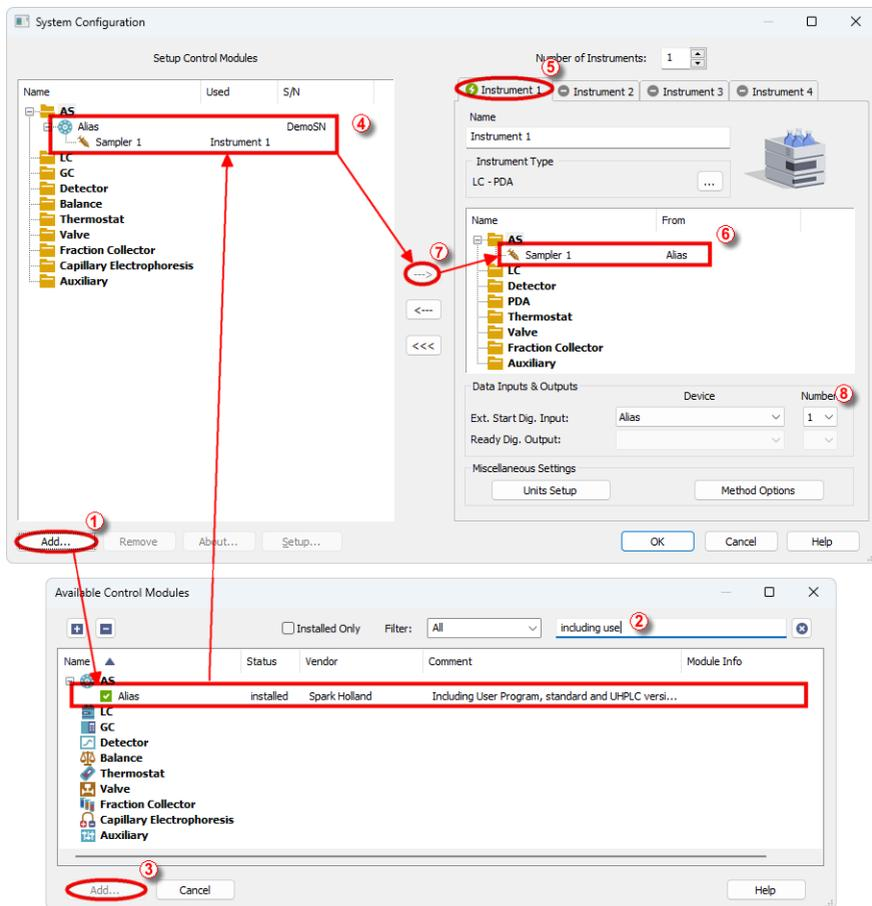

Fig. 4: System Configuration
- Press the **Add** button ① (see Fig. 4 on pg. 7.) to invoke the *Available Control Modules* dialog.
- You can specify the searching filter ② to simplify the finding of the driver.
- Select the **Alias** sampler and press the **Add** ③ button.